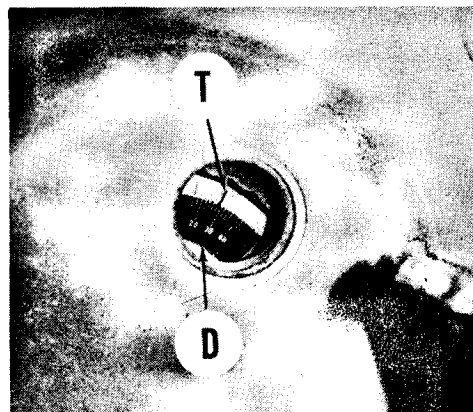
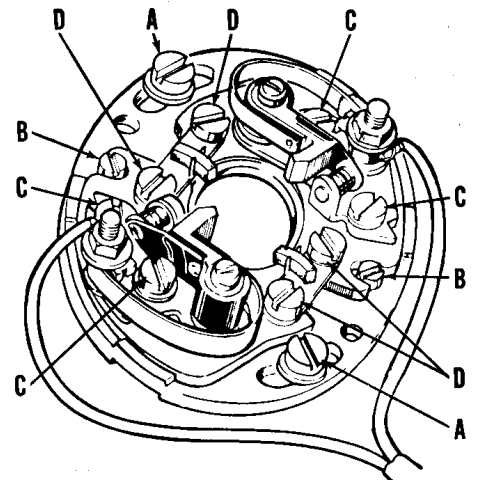

Fig. N2-3—View of degree plate (D) and TDC mark (T) on rotor of Commando models.
Fig. N2-4—View of later type ignition breaker point assembly. Earlier models are similar. Loosen screws (C) to adjust breaker point gap.
Refer to Fig. N2-3. The alternator rotor on some Commando models may have two marks 180 degrees apart. The engine will run when timed to one mark but not when timed to the other mark. Before adjusting ignition timing, identify each breaker point set according to which cylinder it fires. Loosen screws (D—Fig. N2-4) and turn eccentric screw (B) for each breaker point set to adjust ignition timing for each cylinder. Loosen breaker plate retaining screws (A) and rotate breaker plate if a greater range of ignition timing adjustment is needed. Note that moving